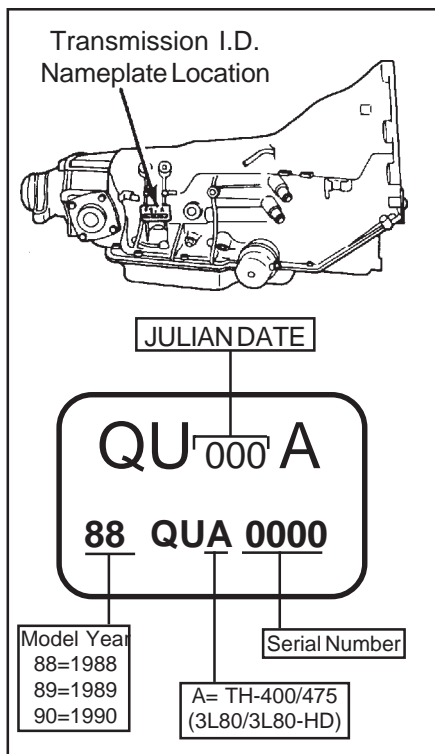
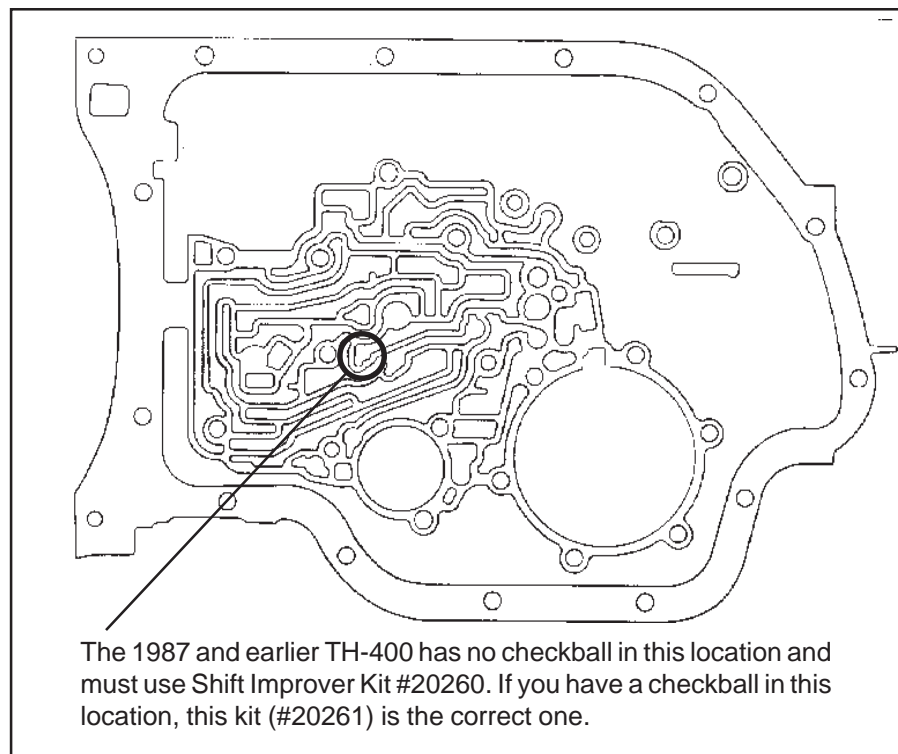

Figure 1
Figure 2
**IMPORTANT MANUFACTURING DATE CHECK:** Hydramatic introduced a revised transmission case just after the beginning of the 1988 model year. If you are installing the **B&M TH-400 Shift Improver Kit** in a 1988 vehicle you must check the Julian date stamped on the transmissions I.D. tag (**See Fig. 1**) before attempting to install this kit. Do not use this kit (**#20261**) in transmissions built **before** November 23, 1987 (Julian date 327), use instead our **#20260 Shift Improver Kit** which is designed to be used with the earlier style case. If the I.D. tag is unreadable or missing you will have to remove the oil pan and valve body from the transmission to determine if your transmission has an early or late style case (**See Fig. 2**). The manufacturing date check applies only to 1988 transmissions, this kit (**#20261**) will work correctly in all subsequent application years specified in the heading of these instructions.